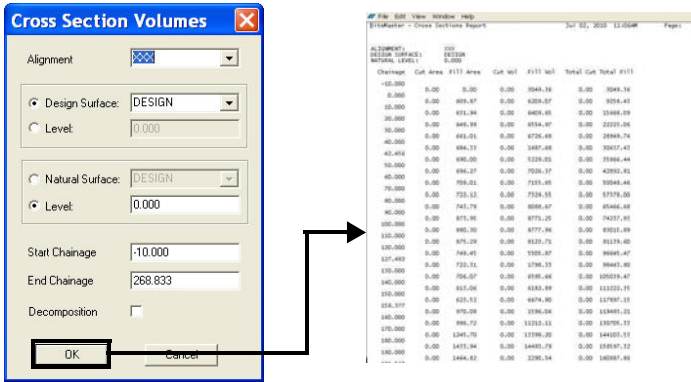

Figure 13-85. Cross Section Volumes Report
- Click **Design** ▶ **Cross Section** ▶ **Cross Section Volume**. The *Cross Section Volumes* dialog box appears (Figure 13-85).